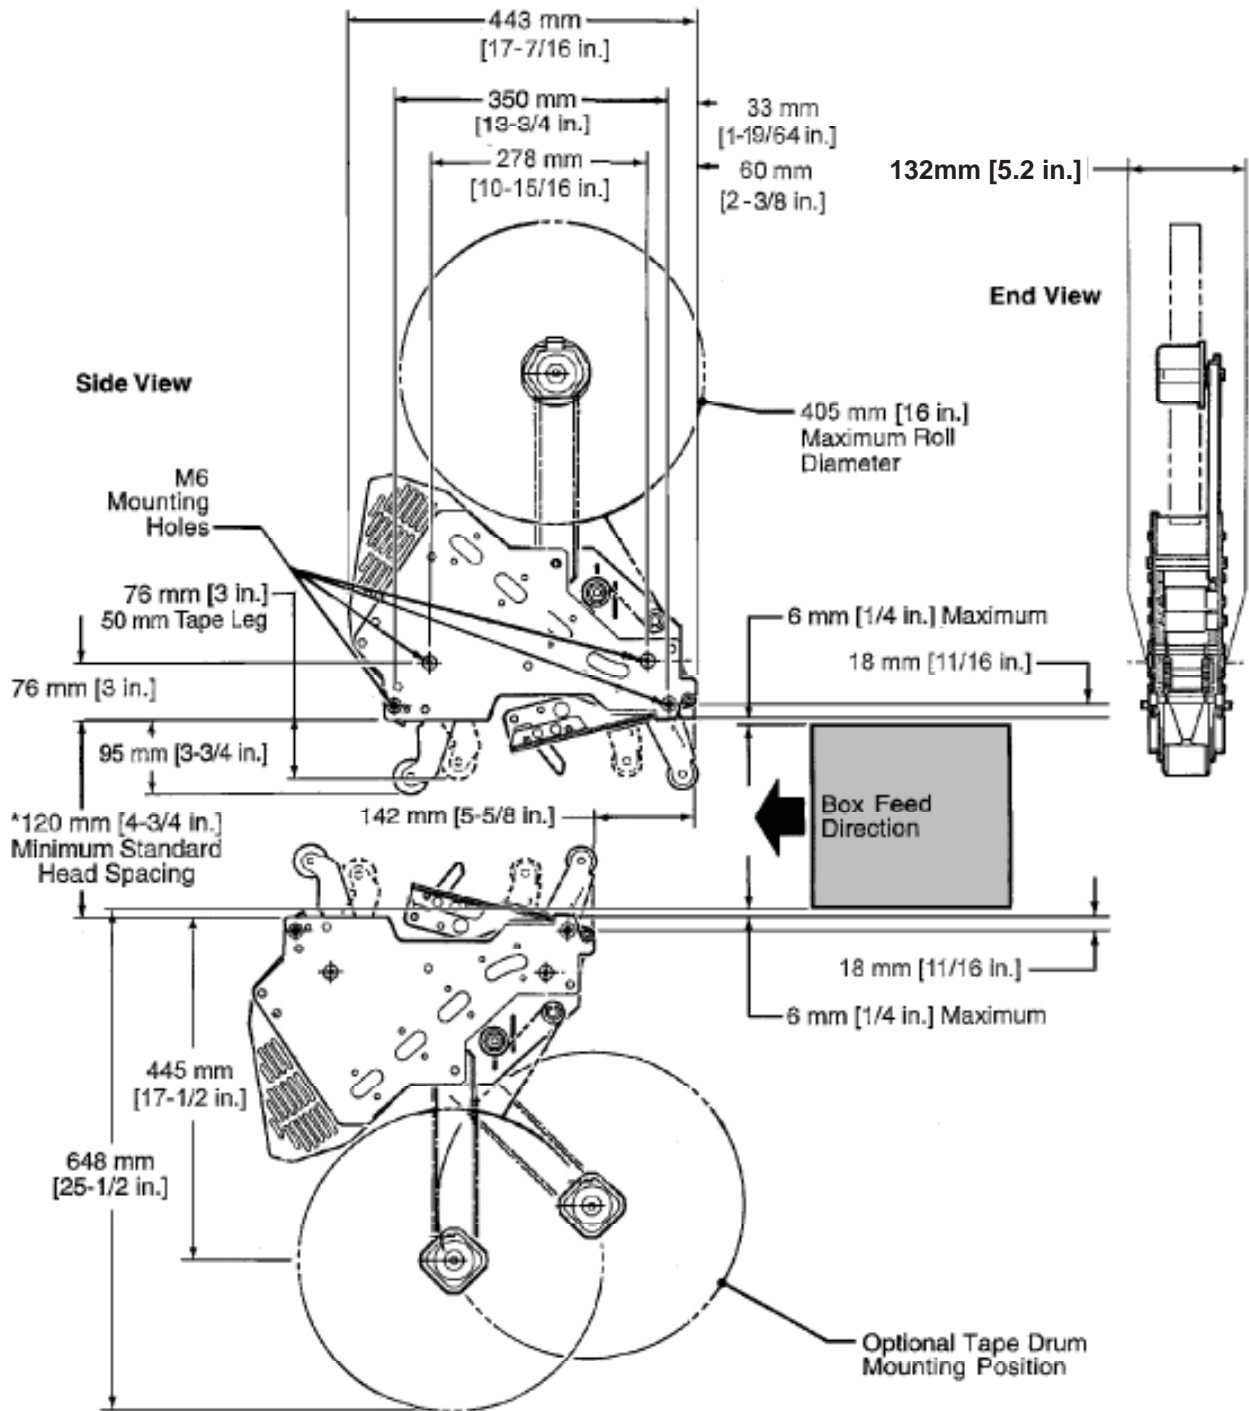

Figure 2-1 – Dimensional Drawing
The taping head assembly can be used in converting existing or in custom made machinery. It can be mounted for top taping or bottom taping. Refer to "Box Size Capacities," as well as **Figure 2-1** in the Specifications section, for the following points in making such installations:
**Important** – Always conduct a hazard review to determine appropriate guarding requirements when the installation is in an application other than 3M-Matic (TM) equipment
3. **Figure 2-1** illustrates the typical mounting relationship for opposing taping head assemblies to allow taping of box heights down to 90mm [3-1/2 inches]. To tape box heights down to 70mm [2-3/4 inches], the taping heads must be completely staggered so only one tape seal is being applied at one time.